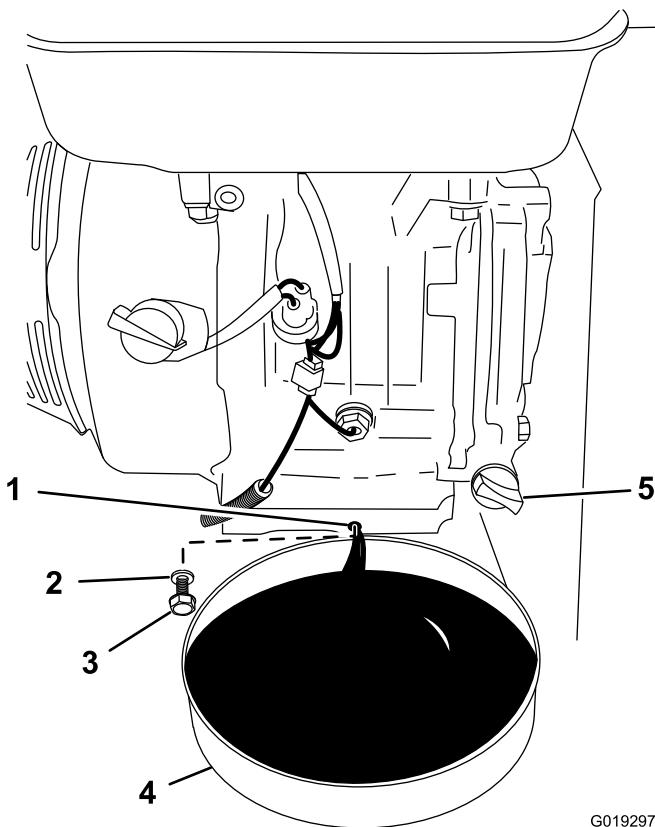

Figure 41
5. Place a drain pan with a 1.9 liter (2 US quart) capacity under the oil-drain port of the engine (Figure 41).
6. Remove the drain plug and washer, and drain the oil (Figure 41).
7. When the oil has drained completely, install the drain plug with a new washer, and wipe up any spilled oil (Figure 41).
2. Remove the oil fill cap/dipstick and slowly pour approximately 80 percent of the specified amount of oil into the engine (Figure 41).